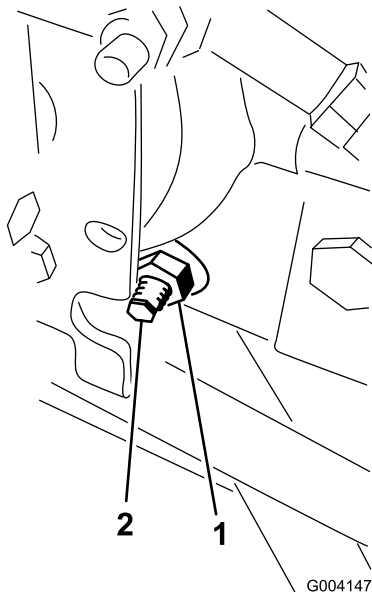

Figure 83
3. On the right side of the hydrostat, loosen the locknut on the traction-adjustment cam (Figure 83).